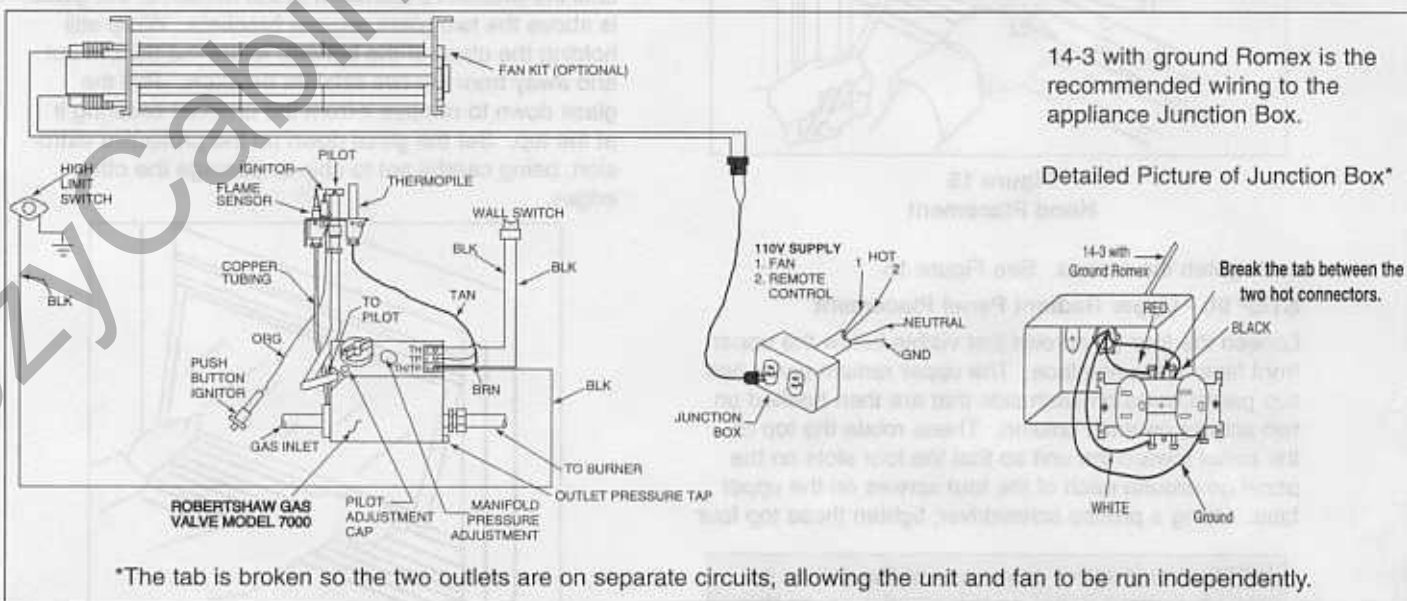

Figure 13
1. Remote Wall Switch. Position the junction box that will house the wall switch (neither are provided) in the desired place on the wall. A wiring diagram is shown in Figure 13. If you extend beyond the wall switch wires provided, you must not use wire on nut extensions, but replace existing